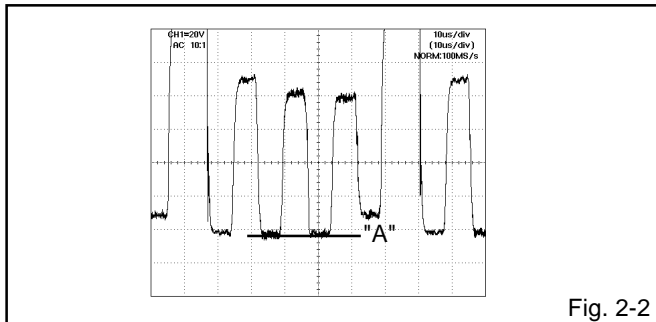

Fig. 2-2
4. Press the VOL. UP/DOWN button on the remote control until the section "A" becomes as straight line **(Refer to Fig. 2-2)**